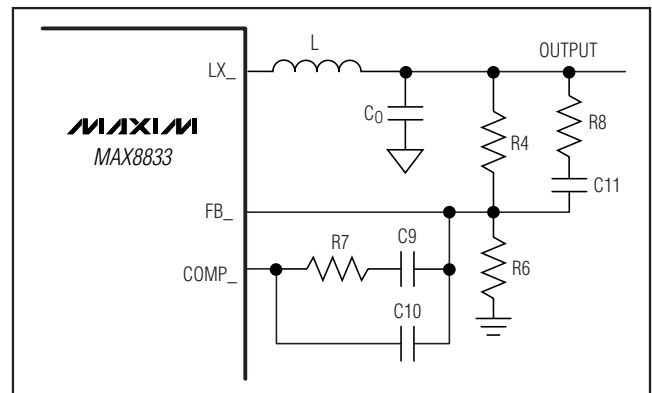

Figure 4. Type III Compensation Network
The output voltages for regulator 1 (with REFIN connected to SS1) and regulator 2 are set with a resistor voltage-divider connected from the output to FB\_ to GND as shown in Figure 4. Select a value for the resistor connected from output to FB\_ (R4 in Figure 4) between 2kΩ and 10kΩ. Use the following equations to find the value for the resistor connected from FB\_ to GND (R6 in Figure 4):
The high-switching-frequency range of the MAX8833 allows the use of ceramic output capacitors. Since the ESR of ceramic capacitors is typically very low, the frequency of the associated transfer-function zero is higher than the unity-gain crossover frequency,  $f_{\text{C}}$ , and the zero cannot be used to compensate for the double pole created by the output filtering inductor and capacitor. The double pole produces a gain drop of 40dB and a phase shift of  $180^\circ$  per decade. The error amplifier must compensate for this gain drop and phase shift to achieve a stable high-bandwidth closed-loop system. Therefore, use type III compensation as shown in Figure 4. Type III compensation possesses three poles and two zeros with the first pole,  $f_{\text{P1\_EA}}$ , located at 0Hz (DC). Locations of other poles and zeros of type III compensation are given by: